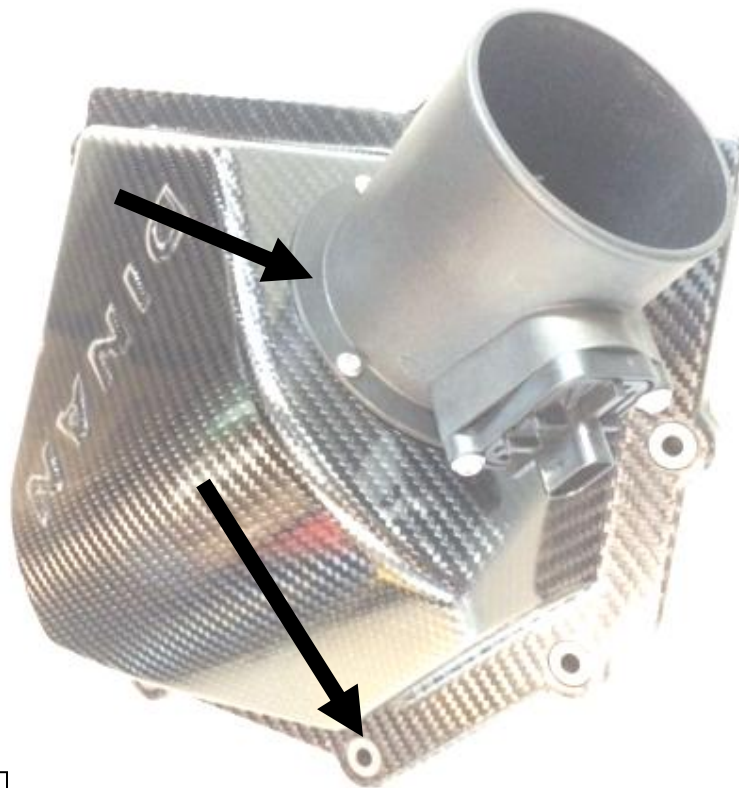

Fig: 12
11. Insert spacers into Dinan carbon lid (7 spacers). Spacers should be flush with lid surface. Insert MAF into Dinan carbon lid. Secure with (4) M4x8 button head screws and tighten. Bolt pattern allows for only one correct orientation. See Figure 12.